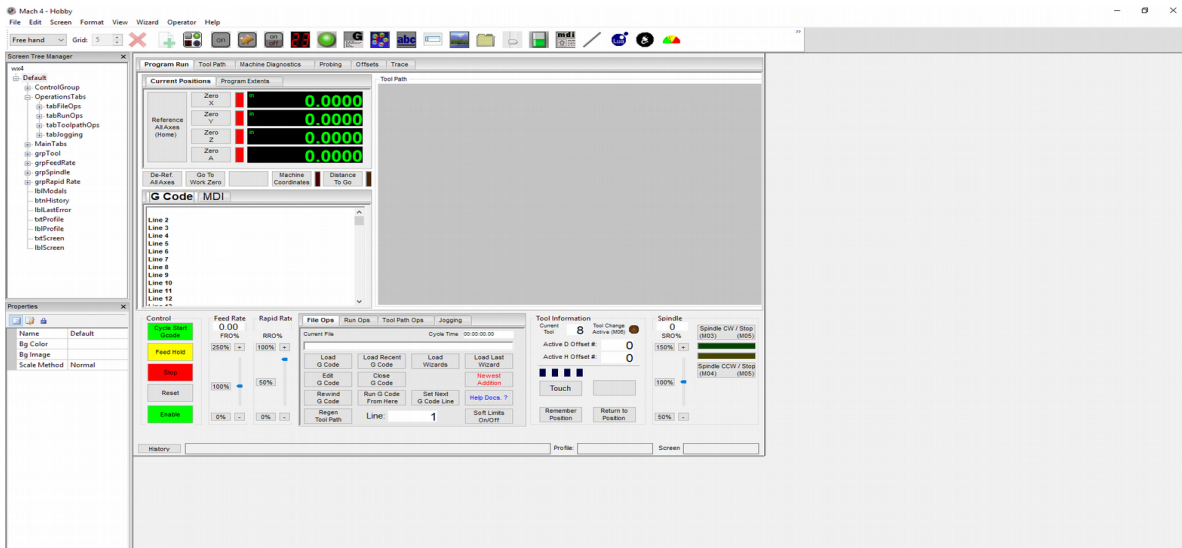

Figure 2-10: Edit Screen
- **Edit Screen:** switches Mach4 to the screen editing mode, see figure 2-10.